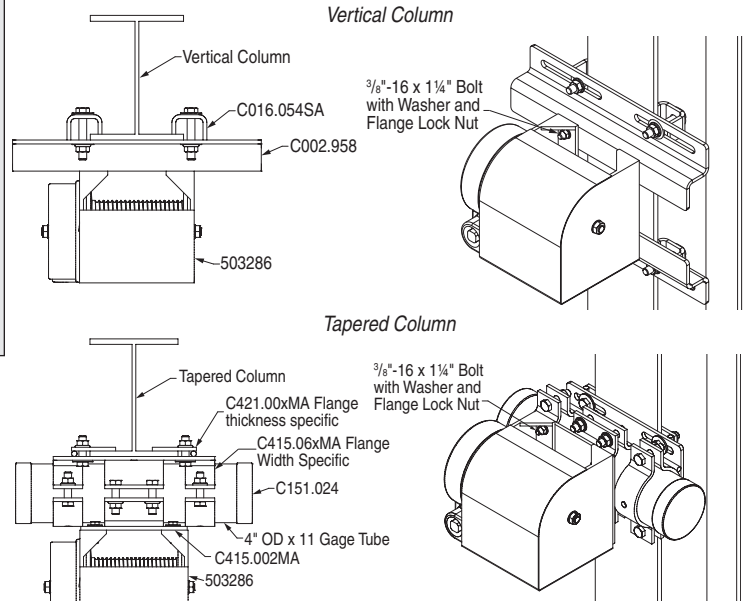

Figure 2
B) To mount to plate or other steel brackets. – Winch is attached to steel plate or brackets using 3/8"-16 x 1 1/4" hex head bolts and flange lock nuts. Attach to column or other surface as shown on project drawings (see Fig. 2).